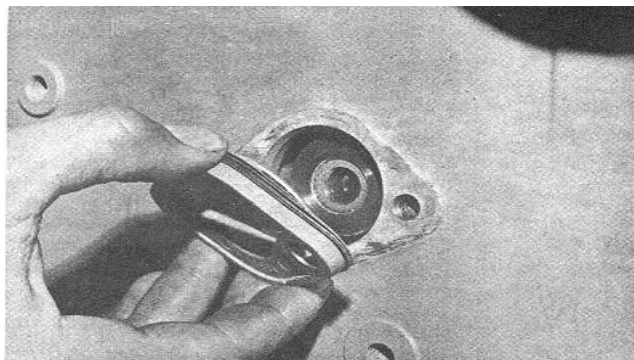
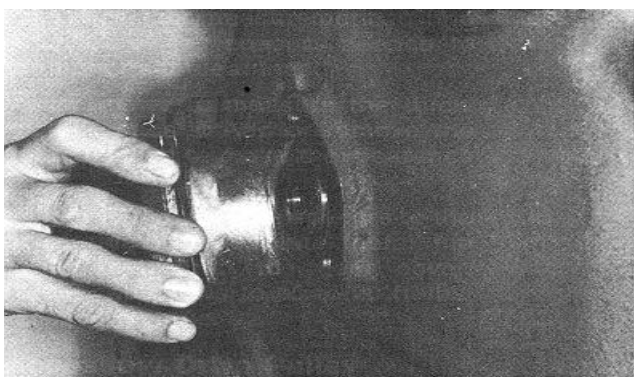

Fig. 14-41 (N11440). The Camshaft Thrust Plate.
Fig. 14-42 (N114187). The Camshaft Bearing Support.
**Note:** Some engines use a support bearing in the gear cover and some use a thrust plate, Fig. 14-41 and Fig. 14-42. The support bearing clearance must be 0.008 to 0.013 inch [0.20 to 0.33 mm]. Thrust plate clearance must be 0.001 to 0.005 inch [0.03 to 0.13 mm].